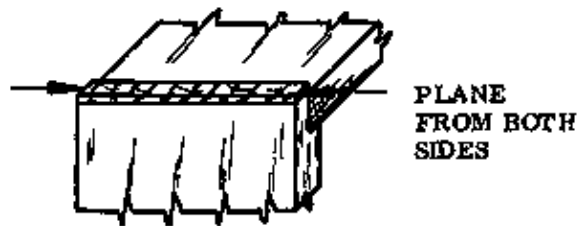

Fig. 7
– Plane off the waste from the sides with the smoothing plane. Prevent splintering by working inwards from the ends (Fig. 7).